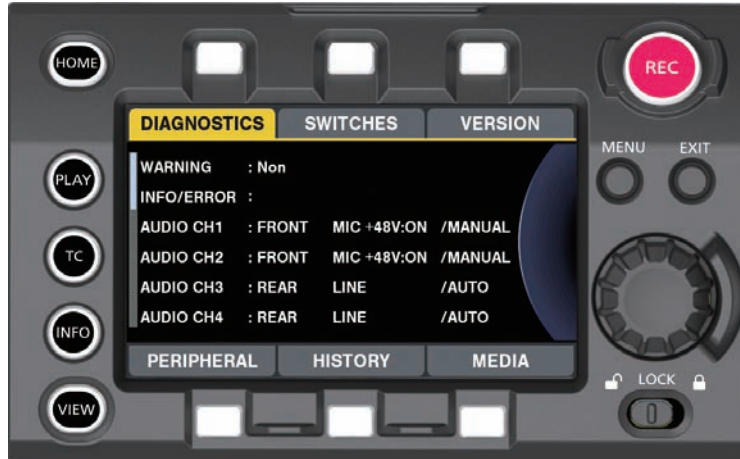

Fig. 1
- 5** Press the <INFO> button to display the INFO screen. (Fig. 1)